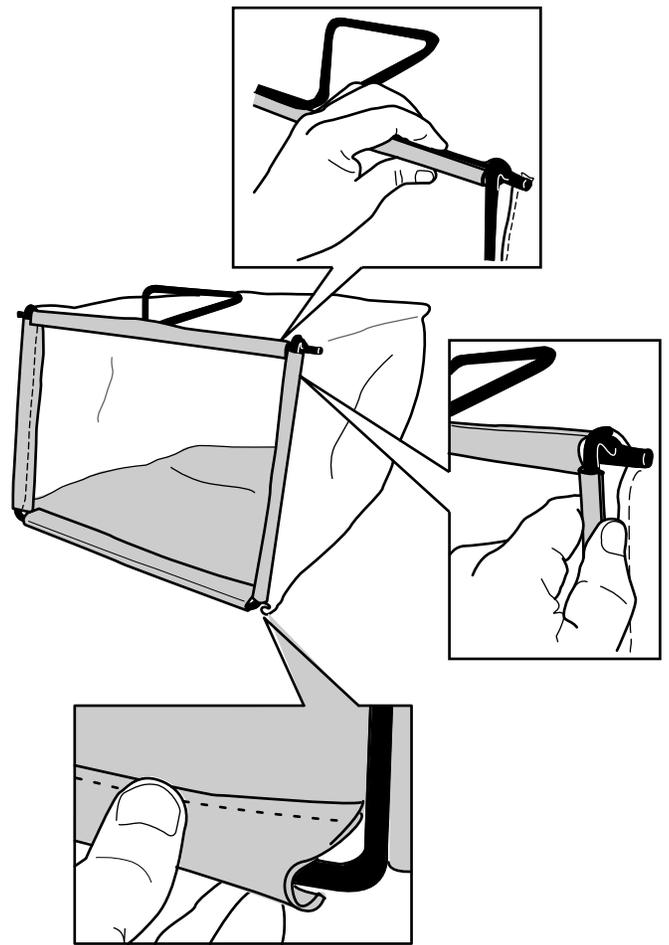

Figure 6
3. Hook the top and side channels of the bag onto the top and sides of the frame, respectively (Figure 6).
2. Hook the bottom channel of the bag onto the bottom of the frame (Figure 6).